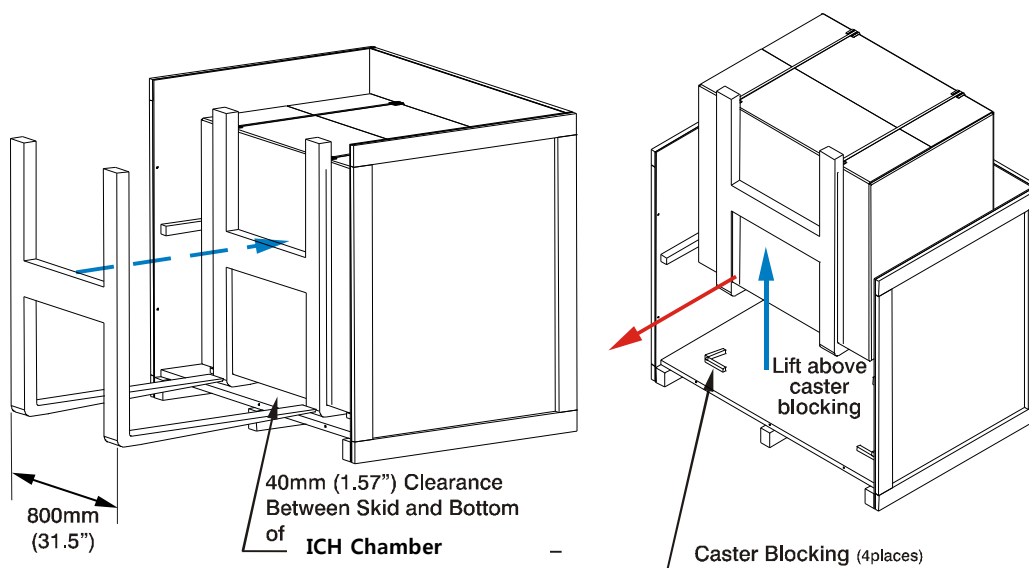

Figure 3.7
Step 1: Carefully slide forklift forks under the incubated shaker. Forks should be set so that outside to outside fork dimension is 800mm. See Figure 3.7.